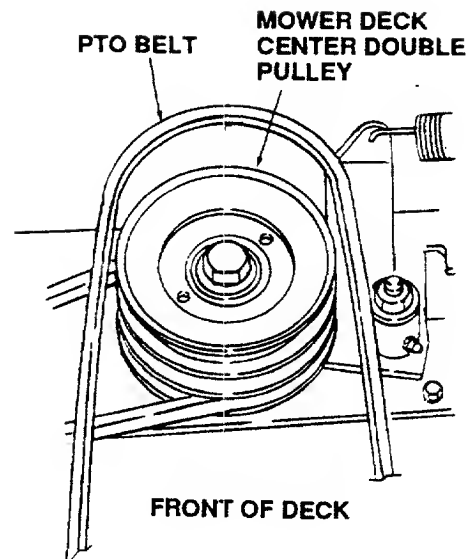

Figure 56
14. Install rearward end of the PTO belt on the upper pulley of the deck center double-pulley. (Refer to Figure 56.) Ensure that narrow side of belt engages groove of the upper pulley.